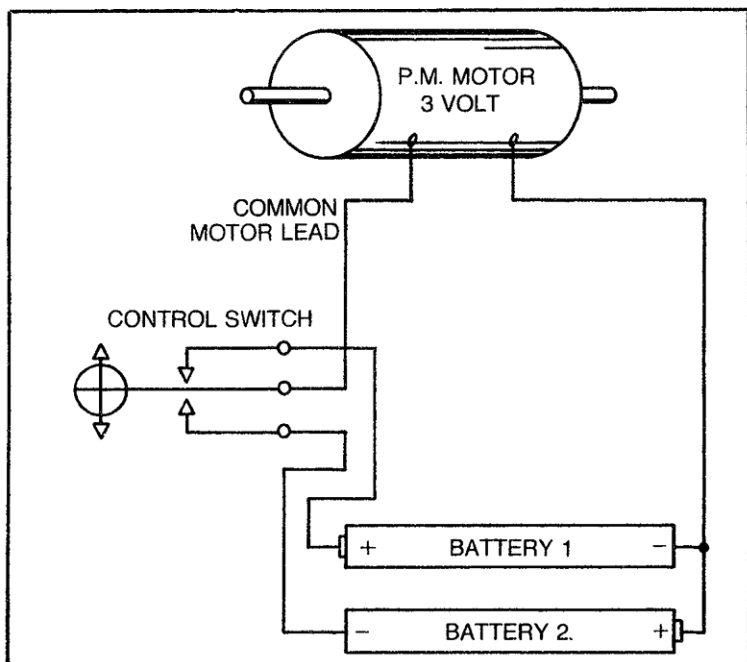

Fig. 1-4. Reversing direction of a pulse-modulated (PM) electric motor.
What must be done to make the *electric* motor reverse its direction of rotation? The idea also will apply to the reversing of an actuator. In Fig. 1-4, the electric motor is known as a permanent magnet (PM) type. There are other types, but with this kind you simply have to reverse the battery connections to make it run in the opposite direction.
To understand what happens in the radio part of the system, see Fig. 1-10. You can see that the switch of Fig. 1-4 has been
replaced by an identical kind of unit called a *relay*. It also has two contacts: (1) and (2). The armature of this electrically-operated switch moves down with a signal to make contact with (2), and when there is no signal, the armature rests against contact (1). Since we described how the motor would run in Fig. 1-4, we won't repeat that here, but the two are identical in operation. The *only* difference is that we now close the relay-switch remotely by a radio signal from the little transmitter when we push its on button.